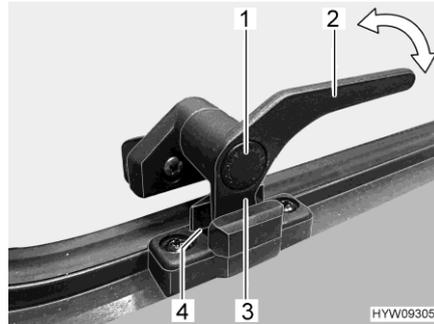

Fig. 46 Catch lever ("continuous ventilation" position)
- "Continuous ventilation" (Fig. 46)
- Press the safety knob (Fig. 46,1) and keep it pressed.
- Turn the catch lever (Fig. 46,3) a quarter turn towards the centre of the window.
- Return the catch lever to its initial position. Move the locking catch (Fig. 46,3) on the catch lever into the recess of the window catch (Fig. 46,4).
- Release the safety knob (Fig. 46,1).